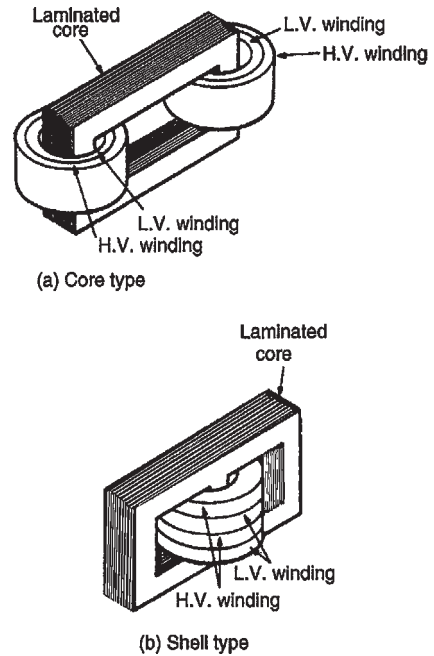

Figure 24.7
- (i) There are broadly two types of single-phase double-wound transformer constructions – the **core type** and the **shell type**, as shown in Fig. 24.7. The low and high voltage windings are wound as shown to reduce leakage flux.